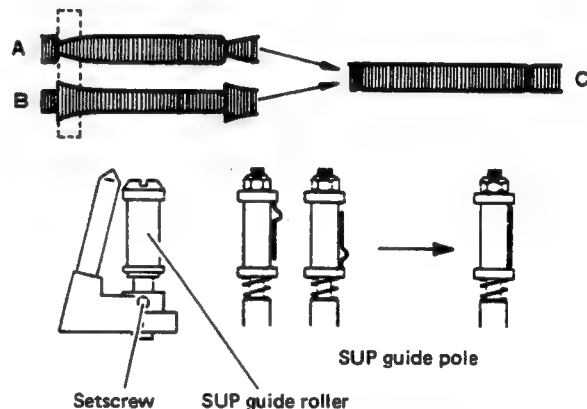

Fig. 2-44 Drum intake adjustment
4. If the waveform appears as shown by A or B of Fig. 2-44, adjust the supply guide roller height to obtain a linear waveform as shown by C.